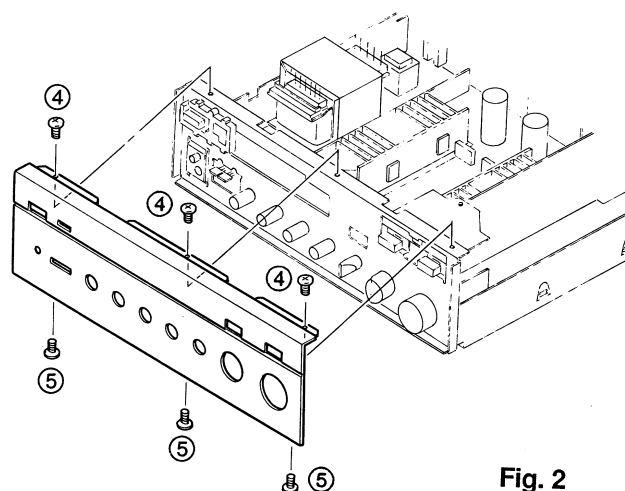

Fig. 2
Remove 6 screws (④ and ⑤) in Fig. 2, and pull the Front Panel forward.